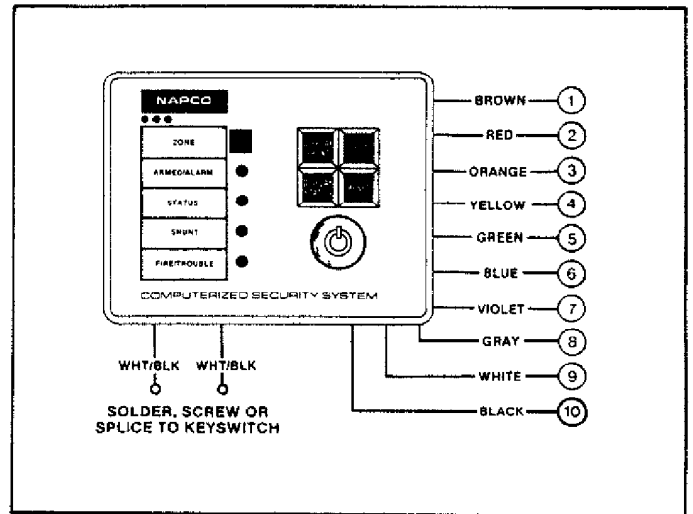

Fig. 2. Wiring Diagram.
2. Complete the wiring connections (refer to the wiring diagram in Fig. 2.)
The wiring diagram is shown in Fig. 2. The UL-listed keyswitch (not supplied) is wired to the two white leads with black tracers.